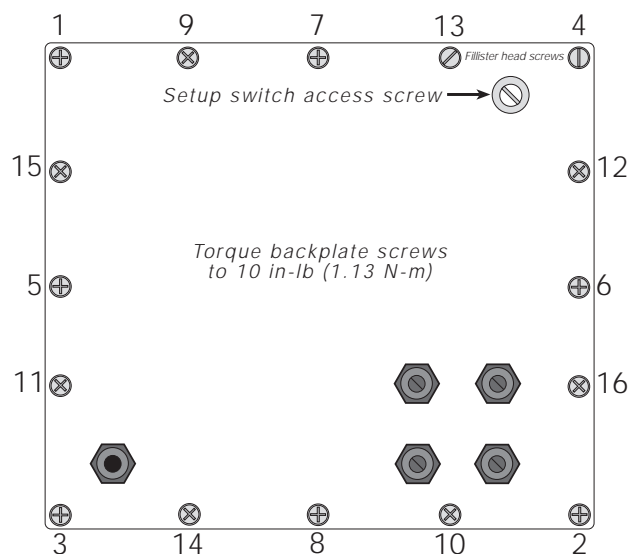

Figure 2. Torque Pattern for Backplate Screws
8. Position backplate over the enclosure and reinstall the backplate screws. Use the torque pattern shown in Figure 2 to prevent distorting the backplate gasket. Torque backplate screws to 10 in-lb (1.13 N-m).